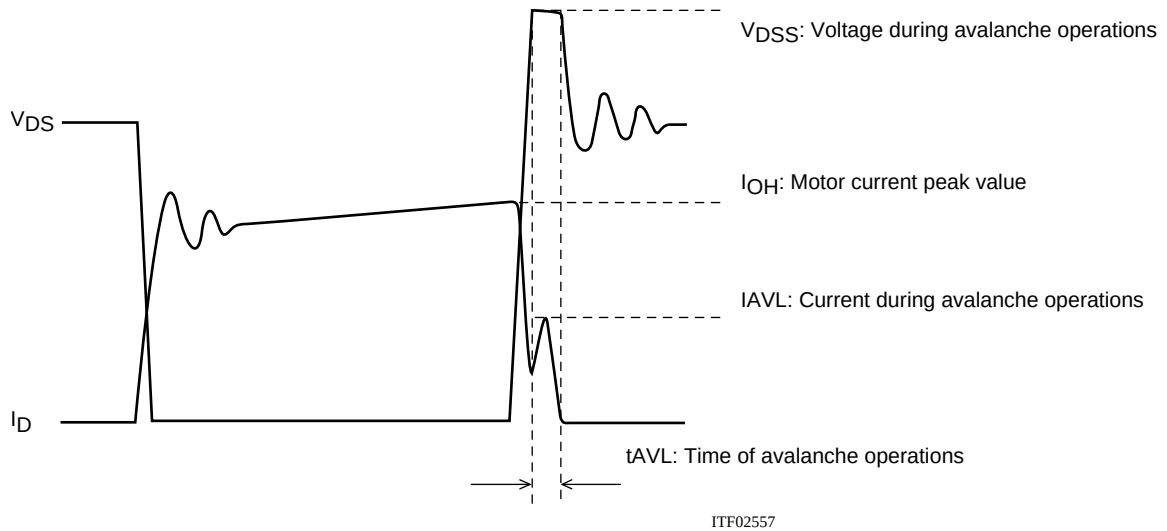

Figure 1 Output Current, I_D , and Voltage, V_{DS} , Waveforms 1 of the STK672-4** Series when Driving a 2-Phase Stepping Motor with Constant Current Chopping
When driving a 2-phase stepping motor with constant current chopping using an STK672-4** Series hybrid IC, the waveforms shown in Figure 1 below result for the output current, I_D , and voltage, V_{DS} .
Although the waveforms during avalanche mode are given in Figure 1, sometimes an avalanche does not result during actual operations.
- Increases in V_{DS} , t_{AVL} , and I_{AVL} in Figure 1 due to an increase in the supply voltage from 24V to 36V.
If the factors above are negligible, the waveforms shown in Figure 1 become waveforms without avalanche as shown in Figure 2.